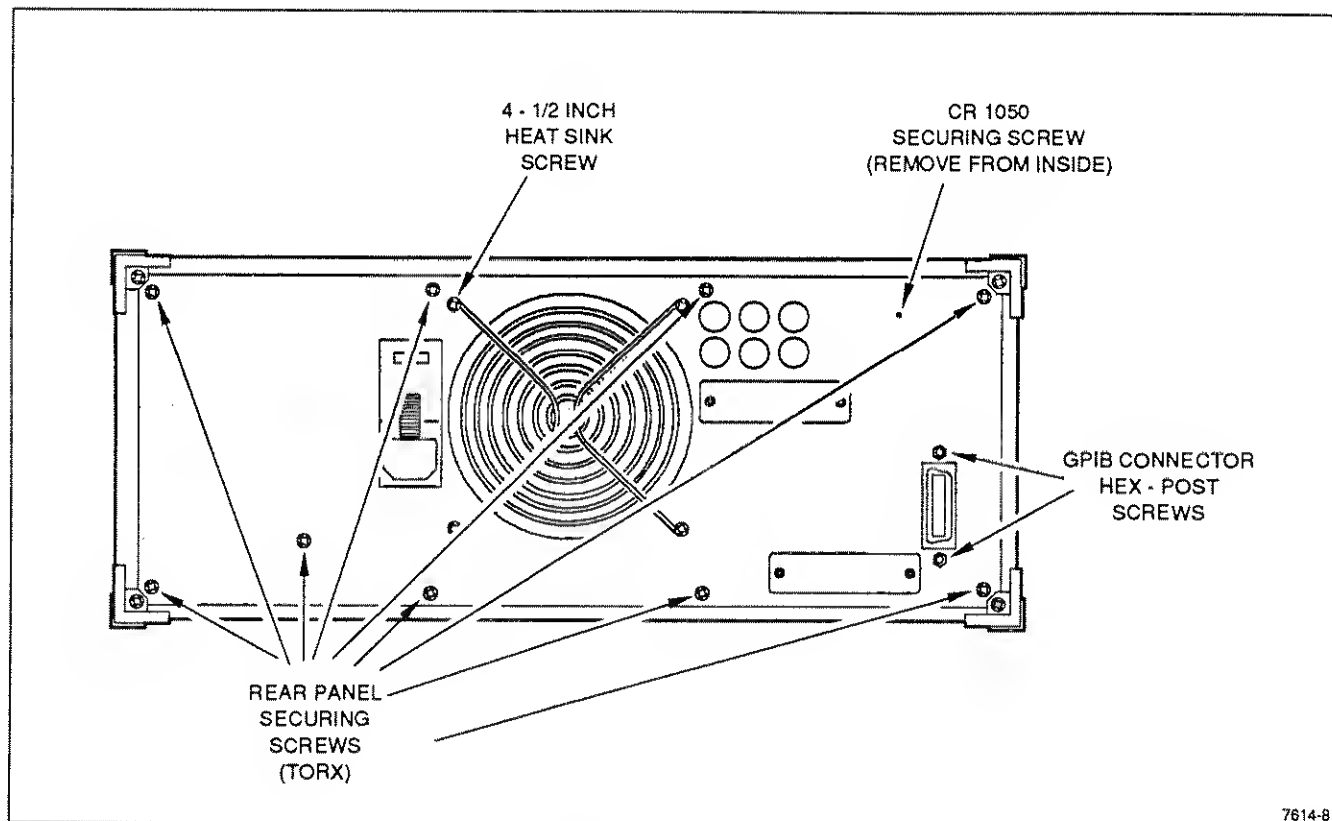

Fig. 5-3. Rear panel removal.
a. Remove the 2 hex-post screws that secure the GPIB connector, using a 1/4-inch nut driver. See Figure 5-3.
b. Remove the screw and insulator block that secures rectifier CR1050 to the rear panel as shown in Figure 5-3.